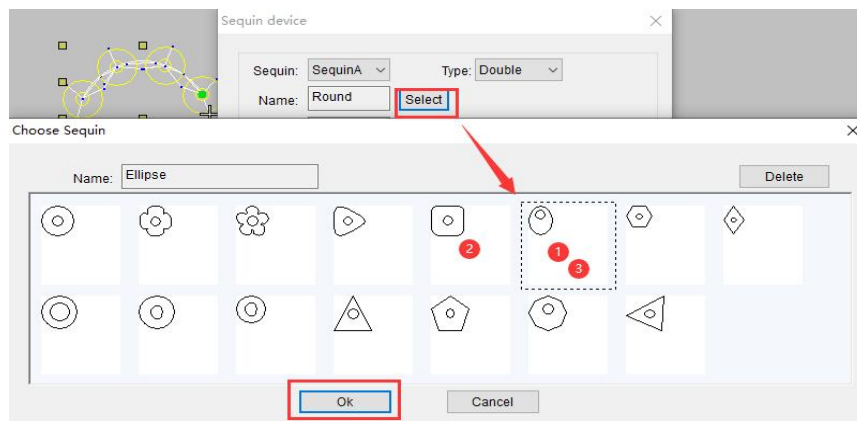

Figure 1
4. Click "Select" in the name position to display a dialog box for selecting sequins. Left click with the mouse Click on the objects to be selected using the methods labeled 1, 2, and 3 in Figure 1. After completion, Click OK.